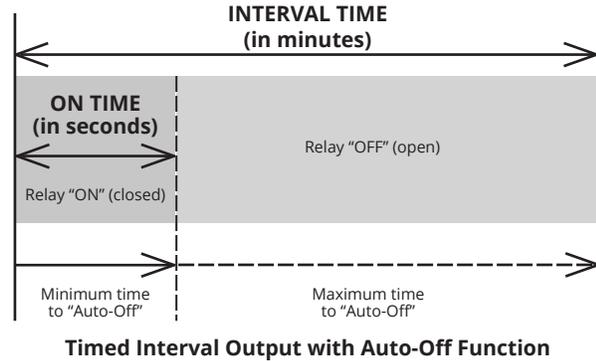

Figure 6.3
**NOTE:** When using both the AUTO (Auto Off) setting and TIME R (Timed Interval) settings, the Auto Off delay must be greater than the ON SEC (On Time) setting (See Figure 6.3). If Auto-Off is less than On Time, the MDI and the slave sensor power transistor will both turn off at Auto-Off. In other words, the MDI cannot shut off and leave the slave sensor power transistor on.